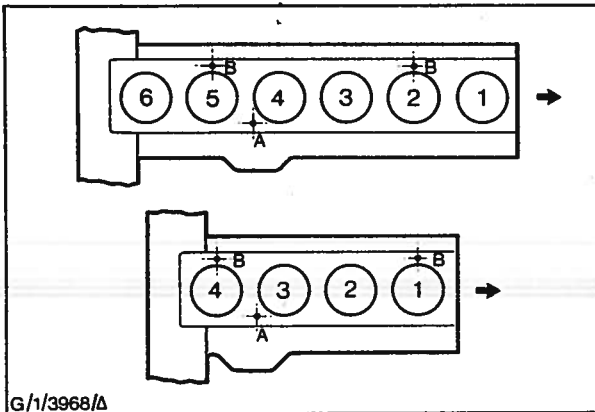

Fig. 74 - Cylinder Head/Gasket Locating Dowels
- 94. Check to ensure the locating dowels are fitted into the counterbores of the two head bolt threads and the water circulating passage at the positions shown in Fig. 74.